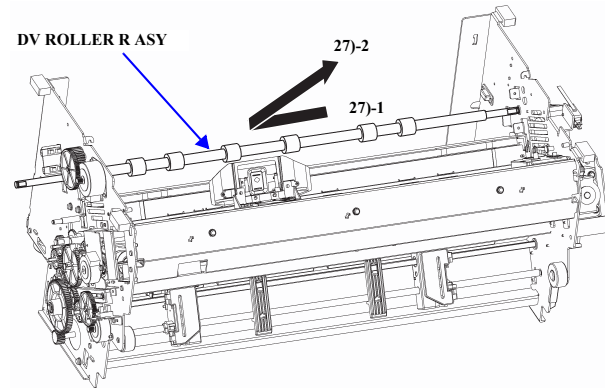

Figure 4-69. DV ROLLER R ASY Removal (10)
26. Remove the four C.B.S. 3×6 screws that secure the Lower guide R, and remove it in the direction of the arrow in Figure 4-69.